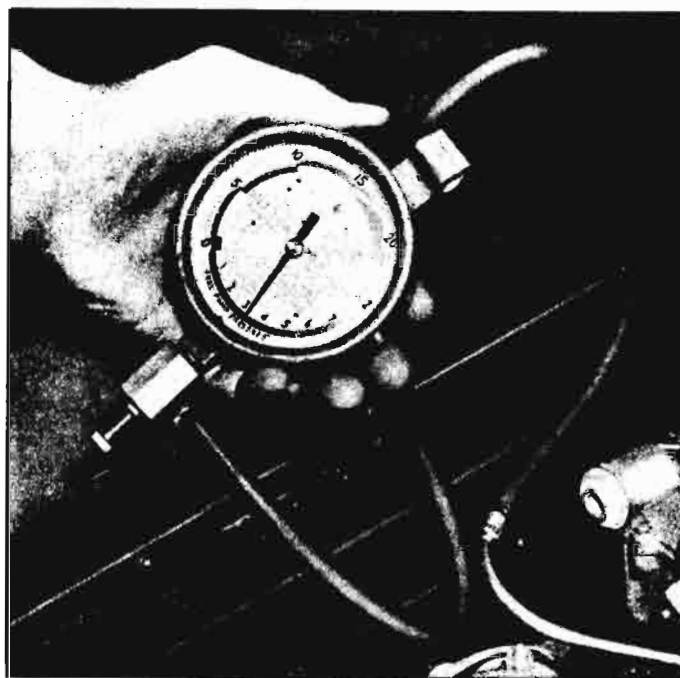

Fig. 9-33—Pressure Test
4. If fuel flows from pump in good volume (1 pint in 40 seconds or less at cranking speed) from pipes at carburetors, check fuel delivery pressure to be certain that pump is operating within specified limits as follows (fig. 9-33):